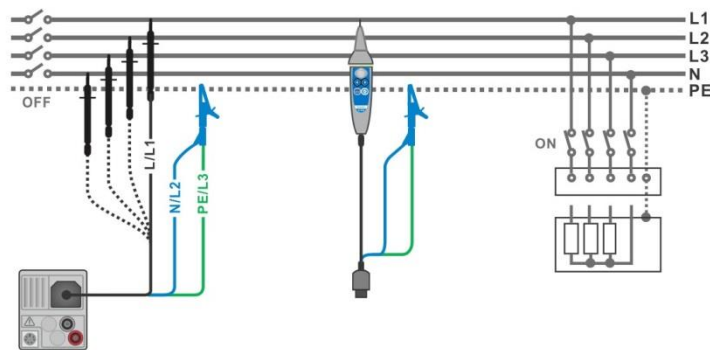
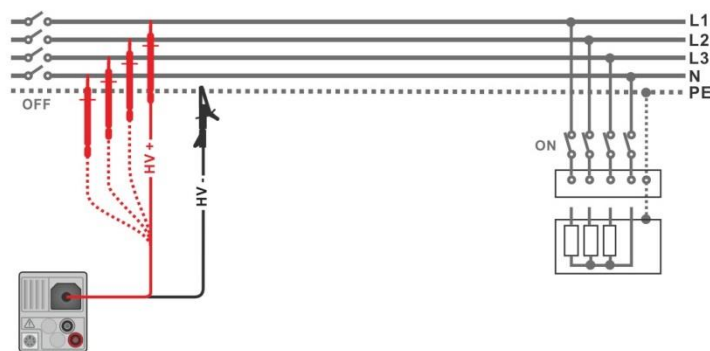

Figure 7.7: Connection of 3-wire test lead and Tip commander ( $U_N \leq 1$  kV)
Figure 7.8: Connection of 2.5 kV test lead ( $U_N = 2.5$  kV)
- › Connect test leads to object under test (see **Figure 7.7** and **Figure 7.8**).